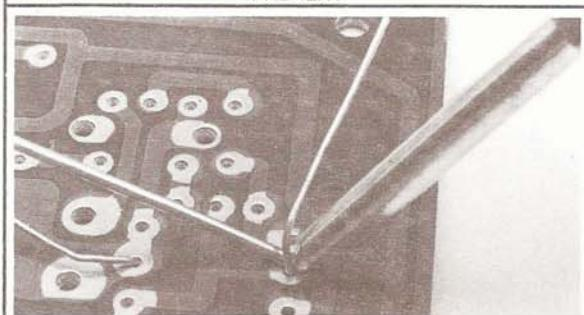

FIG. 5
7. APPLY THE SOLDER - While the connection is being heated, apply solder to the heated area. DO NOT apply solder directly to the tip of the iron. Take care to prevent solder from flowing or bridging to adjacent foil traces and pads. When enough solder has been melted to form a thin coating between the component lead and the solder pad on the pc board, stop feeding solder to the connection (See Fig. 5).